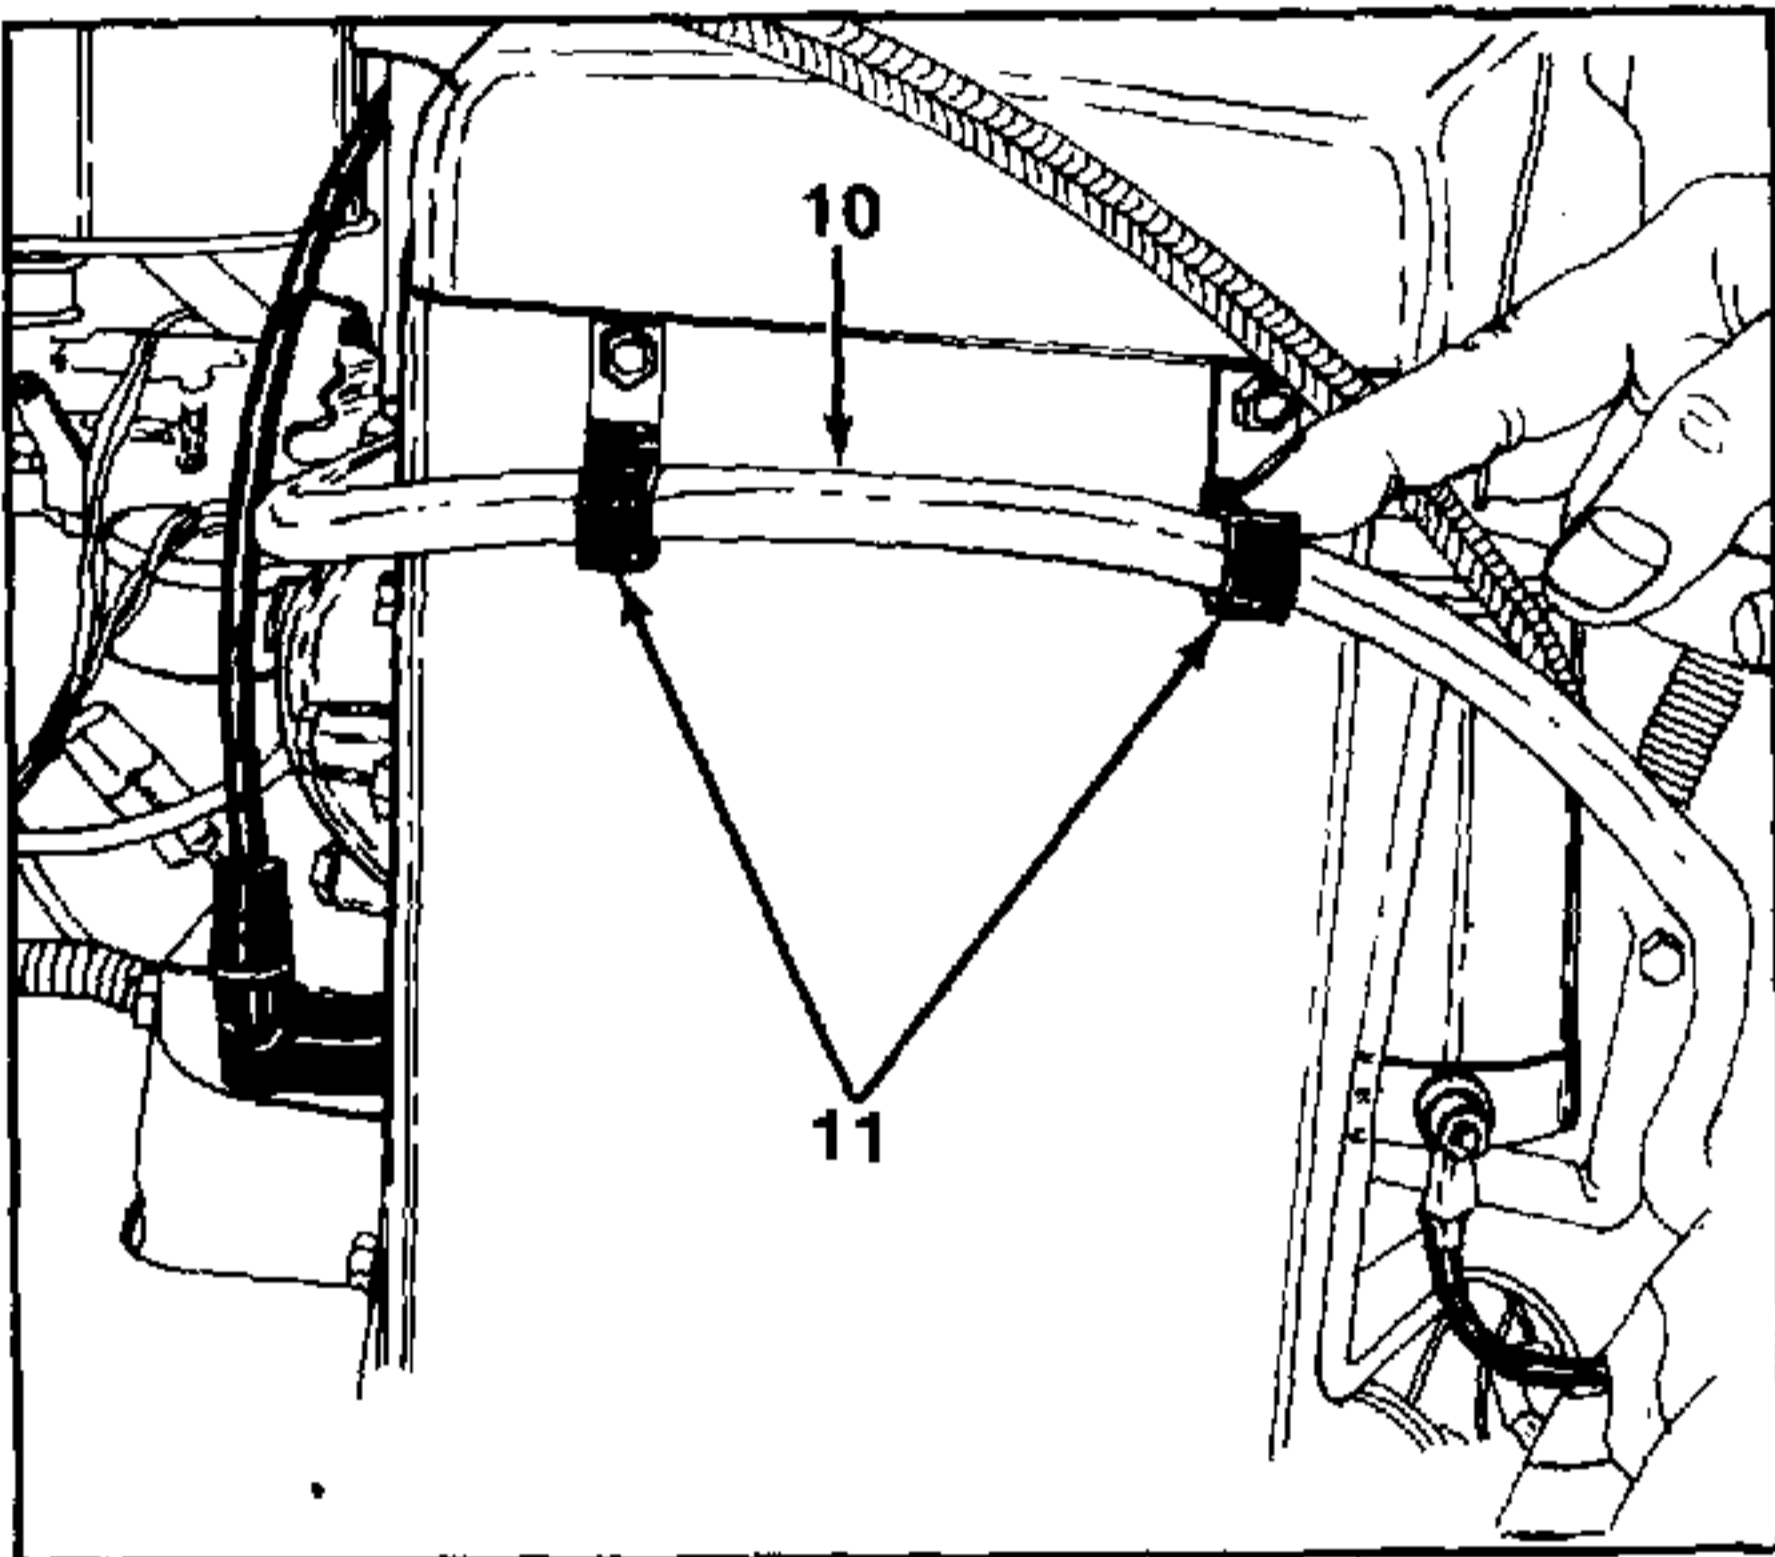

FIGURE 5.
8. Pull the fuel line clip ends downward and pull the fuel line out. See figure 5.